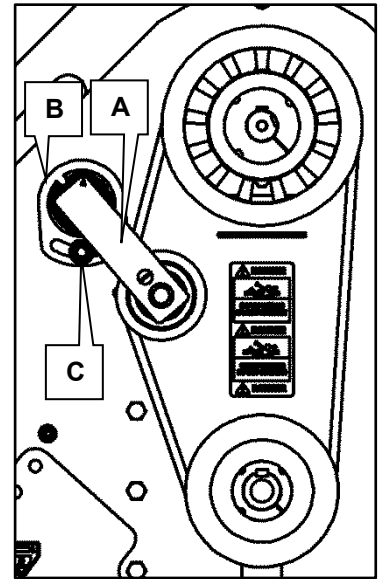

Figure 6.7
- Remove the three, drive guard three retaining bolts, remove the drive guard and refer to Figure 6.7.
- Check the belt tension (as in section 6.1.5.1 above). Then using a suitable marker, make a mark to note where the adjuster plate (B) currently sits on the cowl end plate.
- Slacken the main mounting bolt of the tension unit (A) from the other side of the cowl end plate.
- Loosen the adjusting plate locknut (C).
- When the belt tension is correct, first re-tighten the adjusting plate locknut (C) and then re-tighten the main mounting bolt of the tension unit (A).